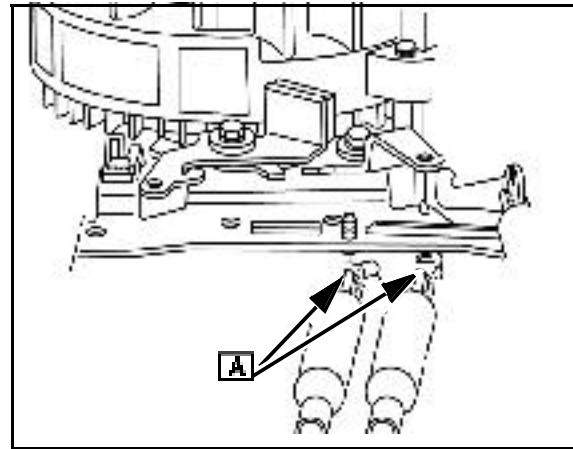

Fig. 44
3. Connect test leads to two spade terminals ([A] Fig. 44) of switch. There should be no continuity.